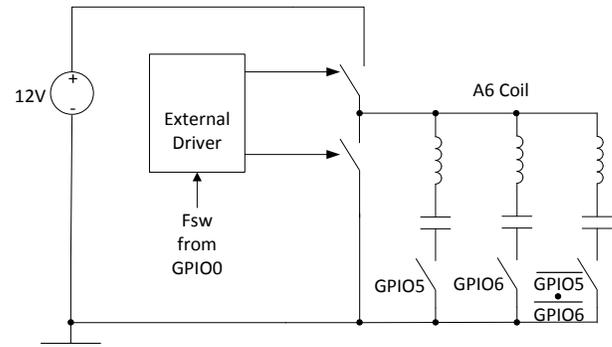
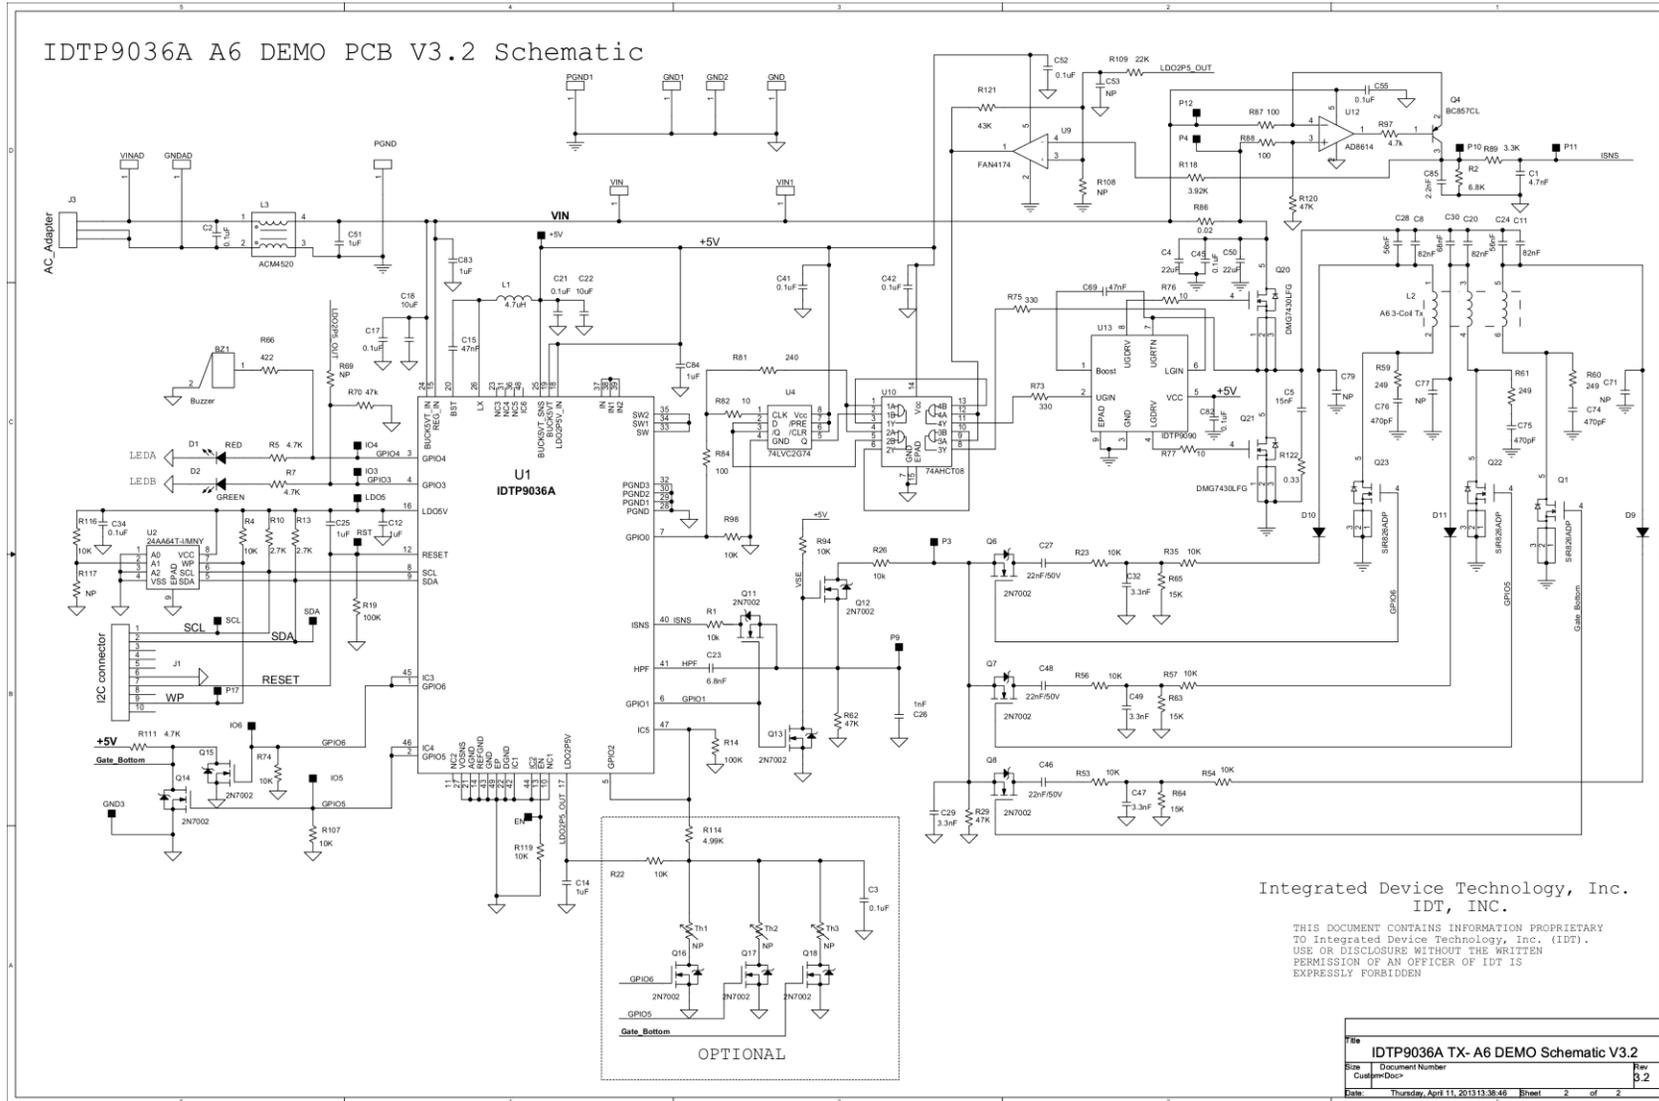

Figure 9. Half Bridge inverter TX Coil Driver.
Figure 11. IDTP9036A WPC “Qi” Compliance Low-cost Schematic (See IDTP9036A Evaluation Kit User Manual for complete details and optional components.)
The recommended applications schematic diagram is shown in Figure 11. The IDTP9036A operates from a 12V_{DC} (±5%) input. The switching frequency varies from 115kHz to 205kHz. At the 205kHz limit the duty cycle is also variable. The power transfer is controlled via changes in switching frequency and duty cycle. The base or TX-side has three series-resonance circuits made of a WPC Type-A6 triple coil and three capacitors. Two of the coils are 11.5µH each, and the other one is 12.5µH, each with a series resonant capacitor (~133nF or 147nF). The resonant circuits are driven by an external half-bridge inverter, as shown in Figure 9. Only the resonant circuit that is aligned with a receiver coil gets a complete path from the inverter output to power ground. The selection is made by voltage levels from GPIO5 and GPIO6, each of which drives a selection FET directly and drives an input of a wired-NAND circuit that activates or de-activates the third resonant circuit.
7). A complete design schematic compliant to the WPC “Qi” standard is given in Figure 11. It includes WPC “Qi” LED signaling, buzzer, and an EEPROM for loading IDTP9036A firmware.